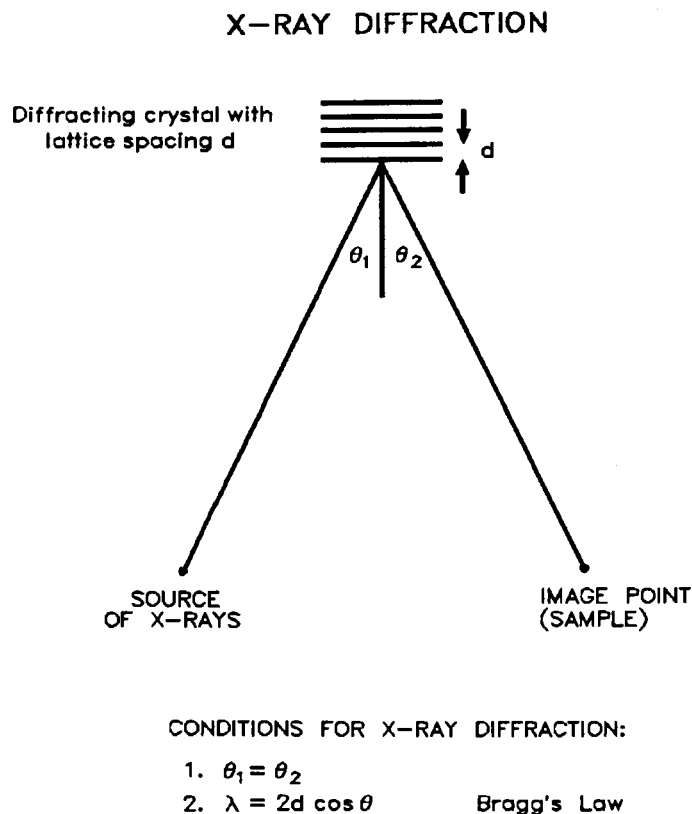

Figure 4-1. Principles of x-ray diffraction.
Figure 4-1 illustrates the reflection of x-rays from the crystal and the necessary conditions for x-ray diffraction. In the specific case of Al  $K\alpha$  radiation diffracted by a quartz (100) crystal,